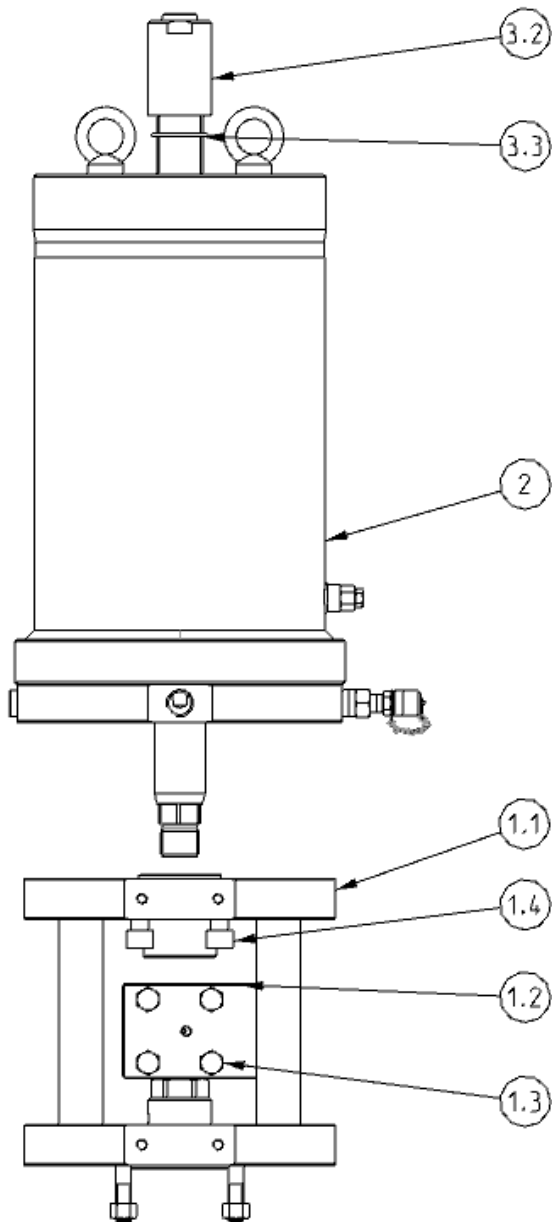

Fig. 6.1
Before unmounting the cylinder (2) it's necessary first of all disassemble the valve adaptation assembly (1.1) and the coupling joint (1.2) by unscrewing the screws (1.3) and (1.4) (fig. 6.1).
4) *Replacement of stopper protection seals* (fig.6.1).